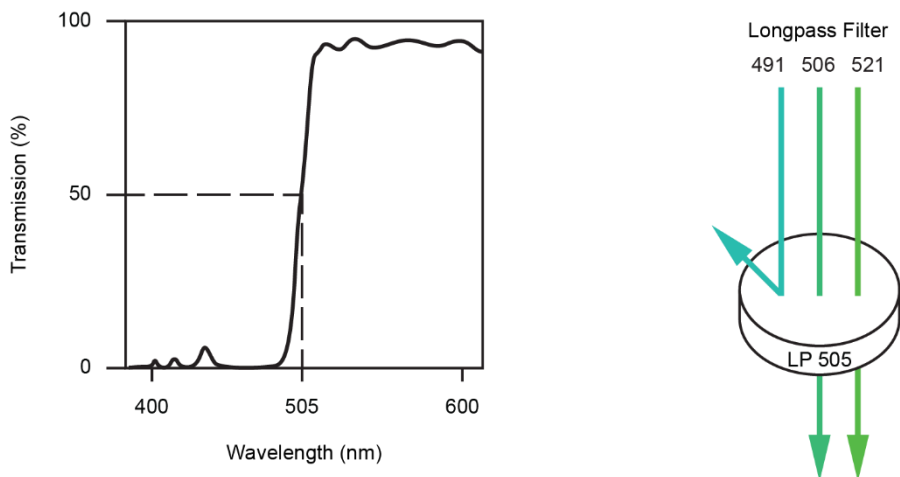

Figure 3. 505 nm Longpass Filter
Longpass (LP) filters pass wavelength longer than the cutoff wavelength. For example, a 505 nm LP filter allows wavelengths longer than 505 nm to pass through it and either absorbs or reflects wavelengths shorter than 505 nm as shown in Figure 3.